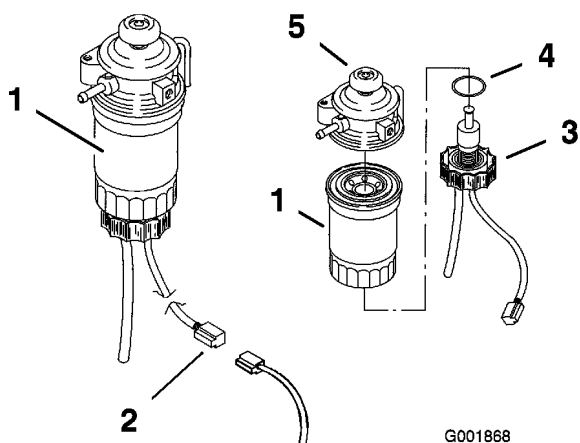

Figure 43
6. Remove the drain plug and discard the o-ring (Figure 43).
8. Install a new filter on by hand until the gasket contacts the housing, then tighten an extra 1/3 of a turn (Figure 43).